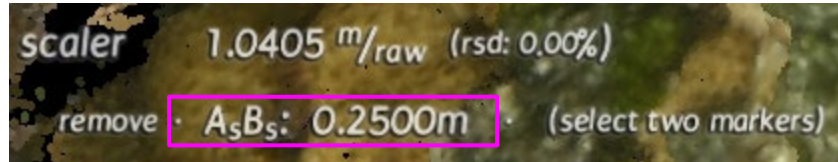

Figure 73. Example of markers with associated scale length in meters.
5. Confirm the length of scale bars using the field metadata sheet (e.g., column Q of MIR SfM Metadata sheet for M:IR users). Locate the scale bar distance that corresponds to the model being used. Enter this value in meters by clicking on or scrolling over the numbers next to the added markers (Figure 73).